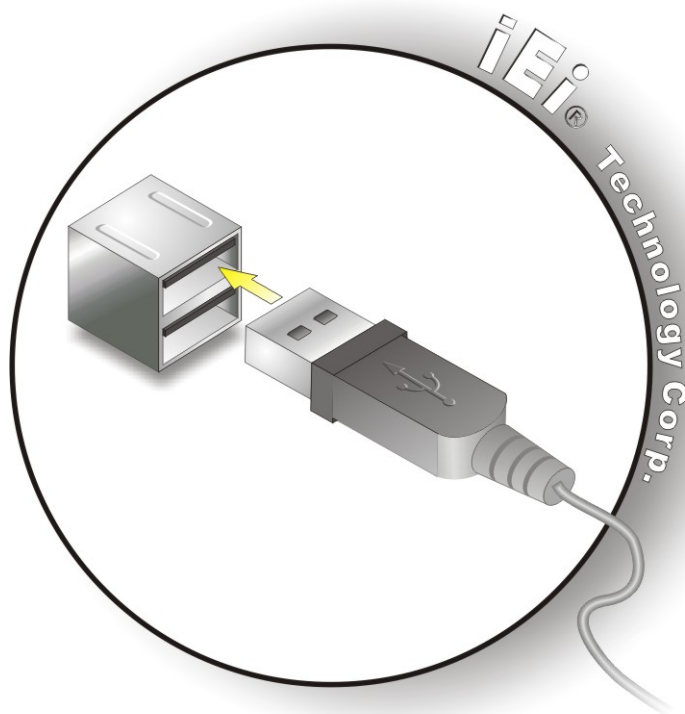

Figure 3-20: USB Device Connection
Step 2: Align the connectors. Align the USB device connector with one of the connectors on the bottom panel. See **Figure 3-20**.